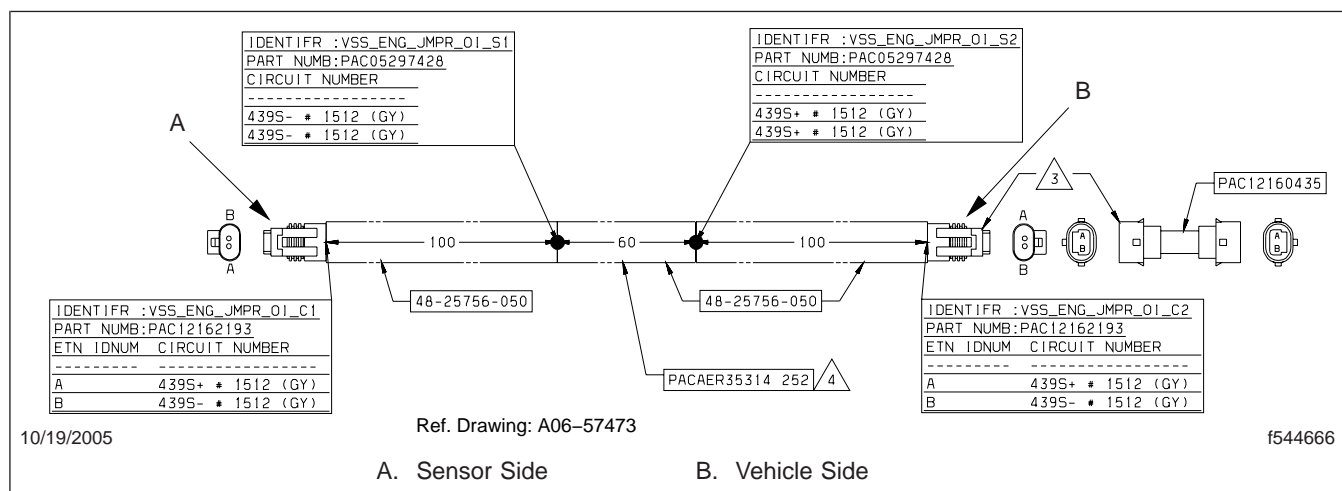

Fig. 2, Jumper Harness
3. Connect the jumper harness, part number A06-57473-000, to the existing harness. See Fig. 2.